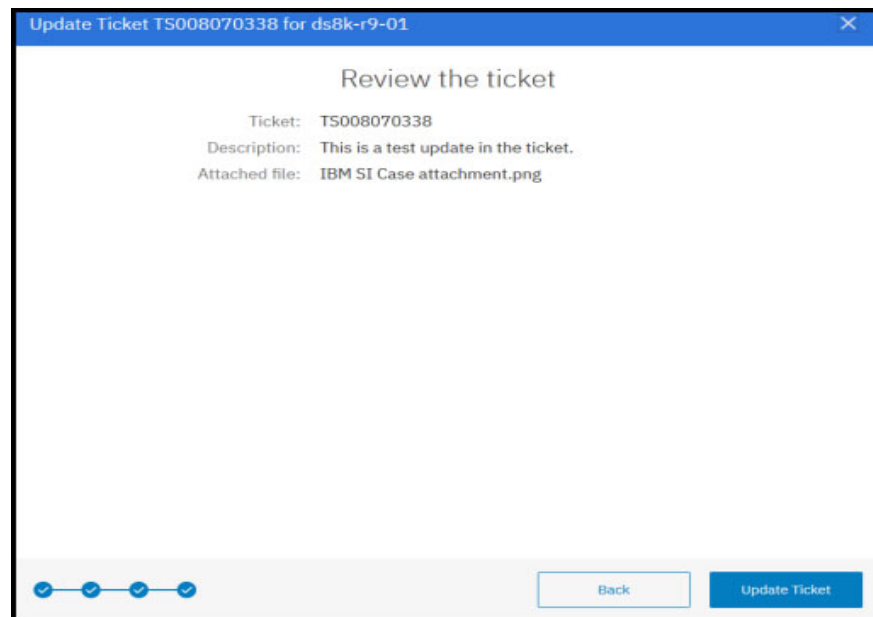

Figure 12-30 IBM Storage Insights: Update summary
- In the window that is shown in Figure 12-30, you see a summary of the update that is about to be left in to the ticket. To complete the process, click **Update Ticket**.